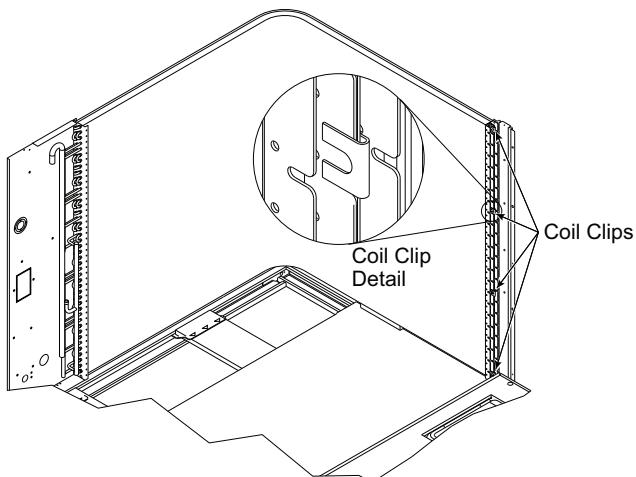

Fig. 21 – Condenser Coil Clips
5. Remove the screws from both sides of the 4 coil retaining clips on the hairpin end of the coil tube sheets. See Fig. 21.